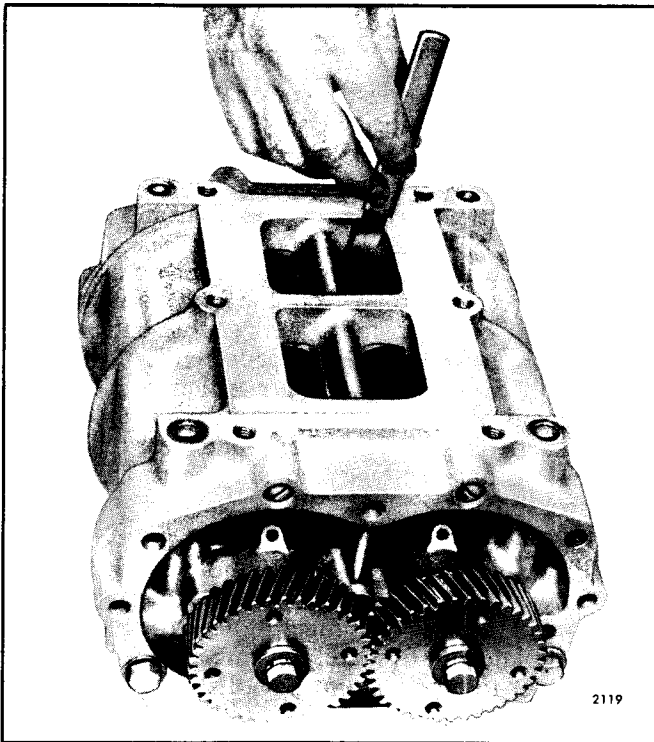

Fig. 19 - Measuring Rotor Lobe to End Plate Clearance
- c. Measure the clearance between the end of the rotor and the blower end plate (Fig. 19). Refer to Table 1 for the required minimum clearances. Push and hold the rotor toward the end plate at which the clearance is being measured.